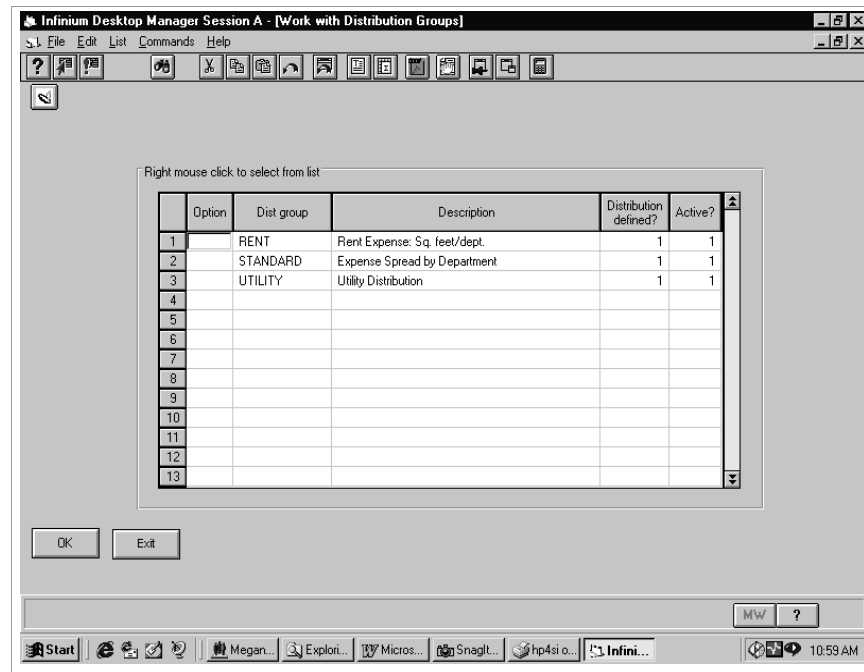

Figure 3-20: Work with Distribution Groups selection screen
- 2 Select *Work with distribution groups* [WWDG]. The system displays the screen shown in Figure 3-20.